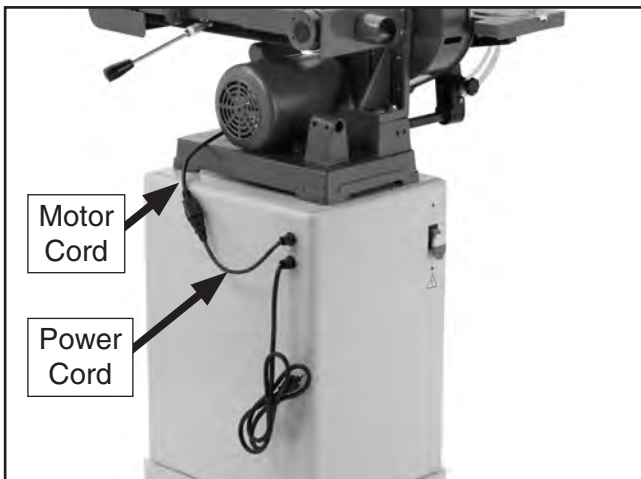

Figure 41. Motor cord connected to power cord.
26. **G1014ZX Only:** Connect the motor cord to the power cord on the cabinet (see **Figure 41**). **DO NOT** connect the sander to the power until indicated in the **Test Run** section on **Page 29**.